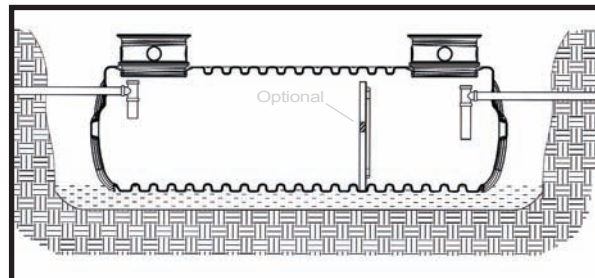

FIG.3 Plumbing Install
- Install the inlet and outlet tees, as required. (Fig. 3) Plumbing tees shall be located as close to the entrance point of the tank as possible (just inside the manway opening). Plumbing tees and gas-baffles are factory provided for Indiana tanks.
- Install the required Roth threaded Septic Access Riser System (STAR™), provided separately. (Fig. 3) See reverse for directions for sealing the riser system.
- Using the corner lifting holes, lower the tank into the excavation. Level the tank, and verify the outlet is lower than the inlet. Install remaining inlet and outlet plumbing. (Fig. 3)